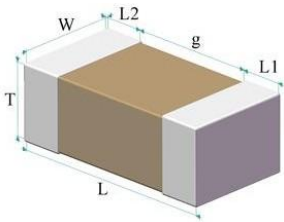

Fig.1 Structure & Dimension
| 2   | Size Code                                 | See Fig.1 and ② Size Code                                                                                                                                                                                          | Measuring by gages which precision is not less than 0.01 mm.                                                                                                                                                                                                                                                                                                                                                                                                             |